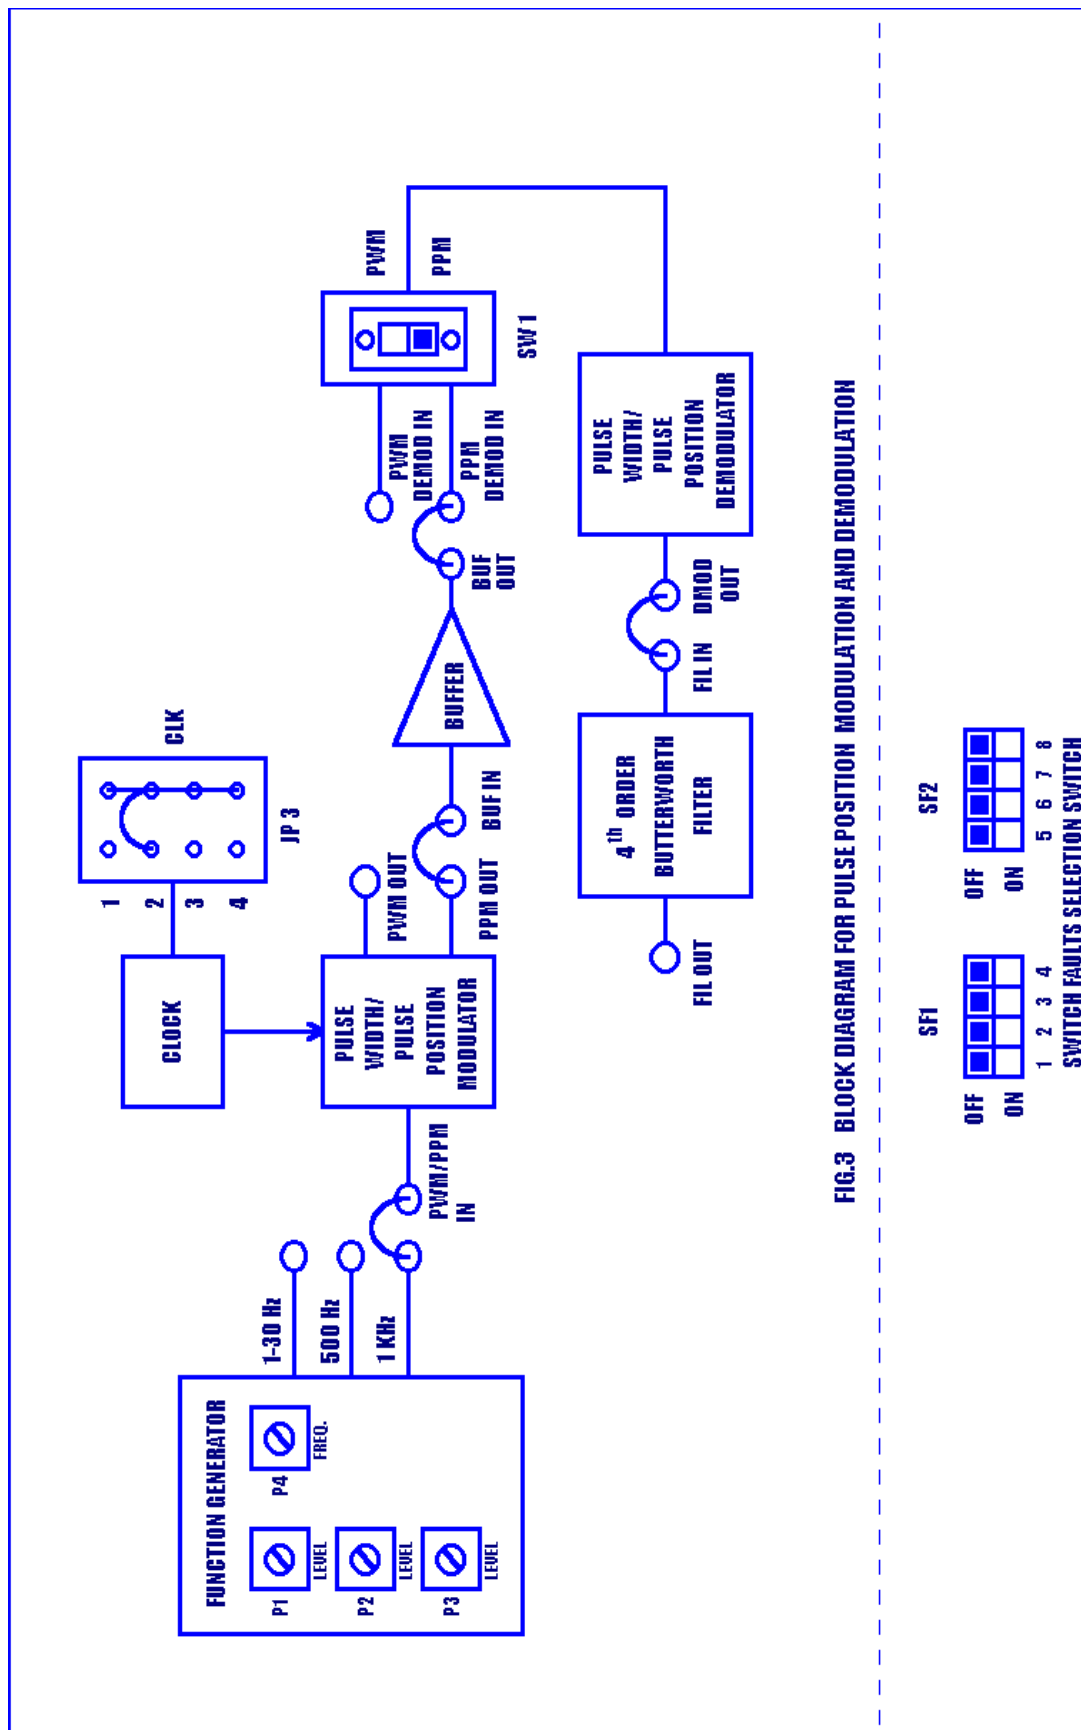

FIG.3 BLOCK DIAGRAM FOR PULSE POSITION MODULATION AND DEMODULATION
1. Refer to the block diagram (Fig. 3) and carry out the following connections and switch settings.